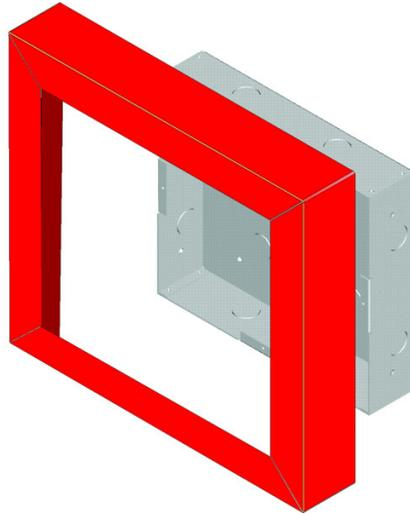

Figure 4.25 Installing Trim Ring
- Place the trim ring over the back box as shown in Figure 4.25.